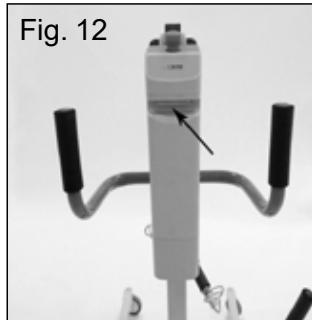

Fig. 12
3. Fit the battery into the control unit. (Fig.12)